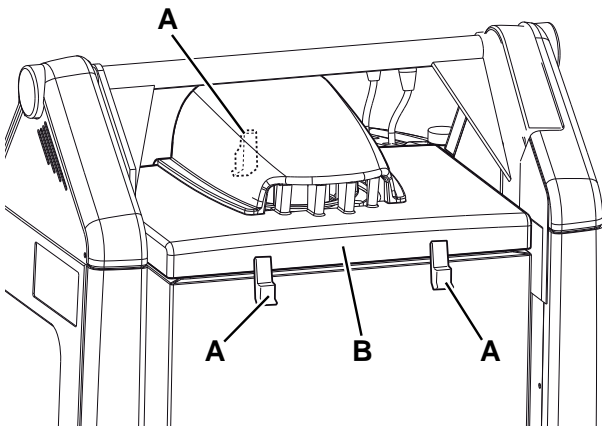

Figure 12
1. Drive the machine on a level floor and engage the parking brake with the pedal (82) and the lever (75).
2. Turn the ignition key (69) to "0".
3. Open the hood (23) and fasten it with the support rod (55).
4. Disconnect the vacuum system motor connector (26).
5. Release the fasteners (A, Fig. 12) and remove the vacuum system cover (B).